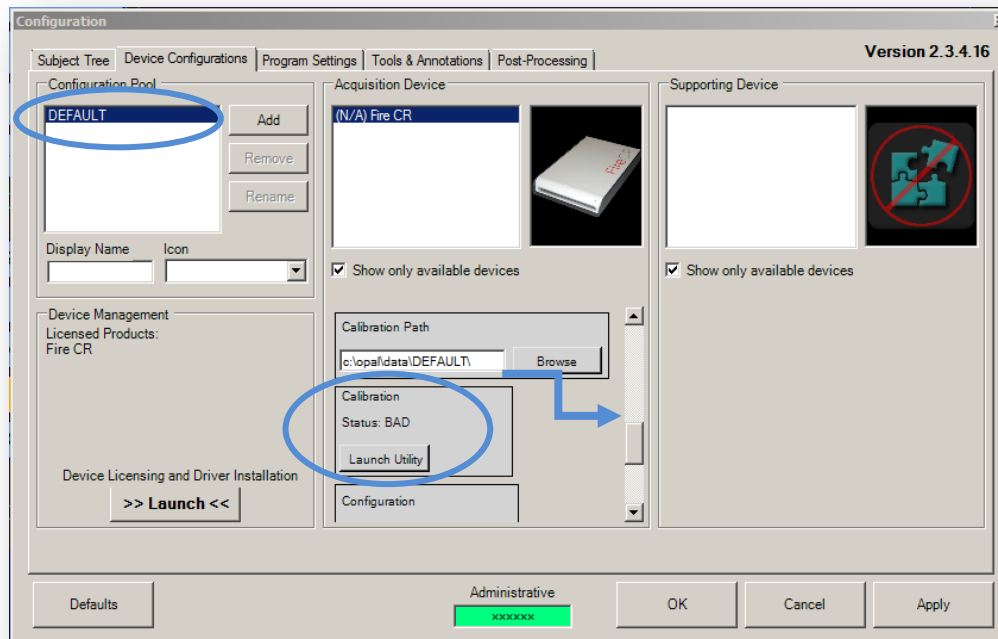

Figure 7
9. Select DEFAULT on the left to activate the Acquisition Device section. *Figure 7*
10. Using the scroll bar to find *Calibration Status BAD*. *Figure 7*